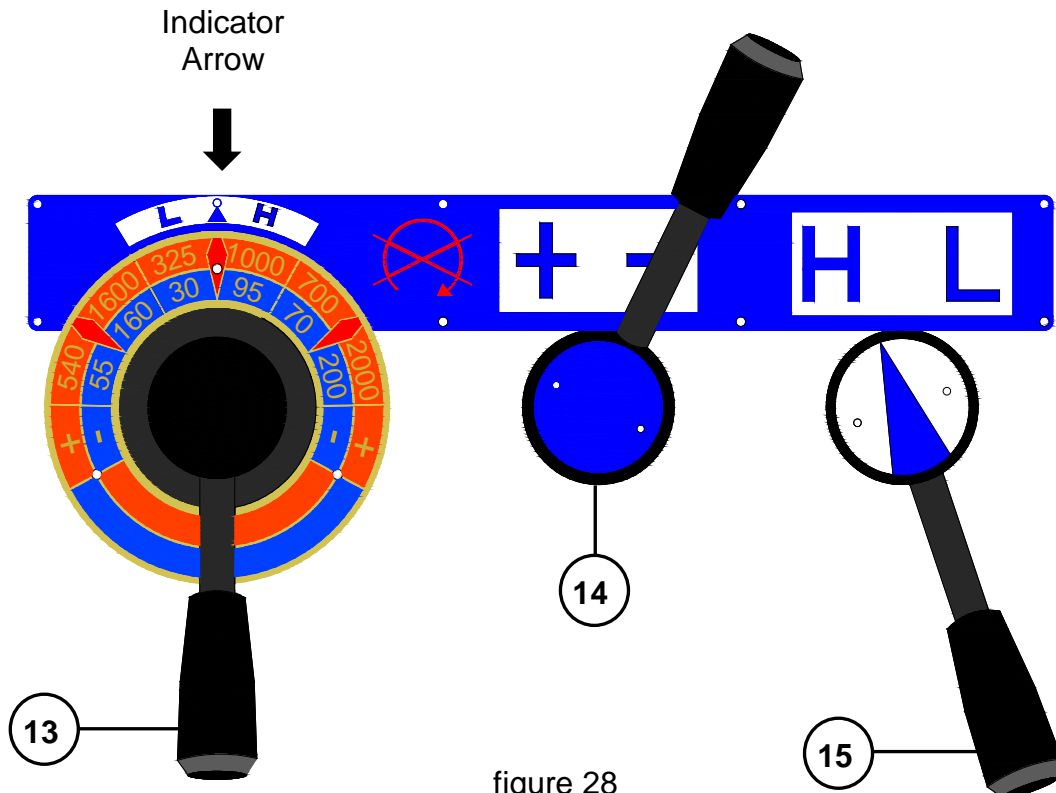

figure 28
The speed of the spindle is set by the position of the three speed control handles as shown in (fig. 28). As an example they will be set for a speed of 95 RPMs. The selector handle (13) is rotated to the center position. Each of the three positions will click when the handle is properly rotated. The 95 RPM selection is in the blue area, so selection handle (14) should be in the minus (-) position as shown. To the right of the indicator arrow is the 95 RPM value. The (H) indicates high speed, whereas the 30 RPM value would be the low (L) speed setting. The selector handle (15) is therefore set to (H) for high speed. Spindle speed is measured in RPM (revolutions per minute). The following 12 spindle speeds are possible on the PL-1640 lathe: **30, 55, 70, 95, 160, 200, 325, 540, 700, 1000, 1600, and 2000 RPM.**